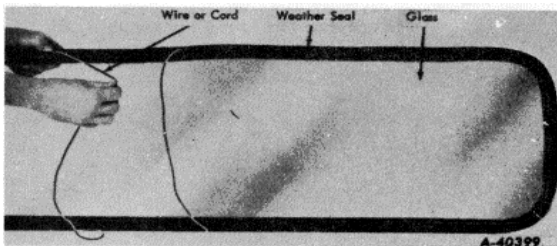

Fig. 31
2. Place a chalk line cord in the weatherseal flange channel, working the cord into the channel around the full length of the weatherseal. Be careful to keep the cord straight and free of kinks. Fig. 31.